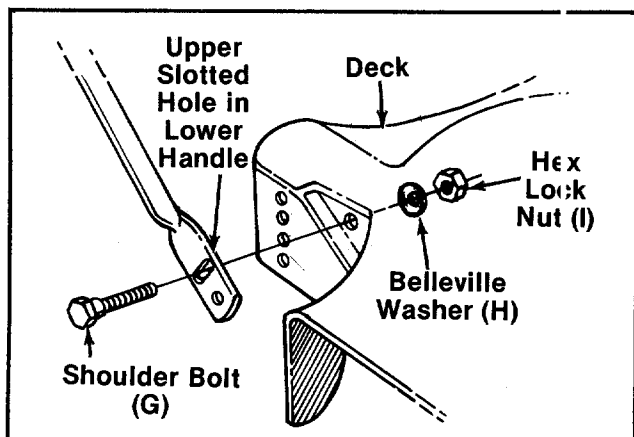

FIGURE 2.
- F (2) Cable Ties
- G (2) Shoulder Bolts 5/16-18 Thread
- H (2) Belleville Washers 5/16" I.D.
- I (4) Hex Lock Nuts 5/16-18 Thread
- J (1) Rope Guide Bolt
- K (1) Curved Head Carriage Bolt
- L (2) Lock Washers 5/16" I.D.
- M (2) Hex Nut 5/16-18 Thread
3. Line up the upper slotted hole in the lower handle with the mounting hole on deck. Place shoulder bolt (G) through lower handle and deck. Place belleville washer (H) on the shoulder bolt, with the cupped side of the washer against the deck. Secure with hex lock nut (I). See figure 2.